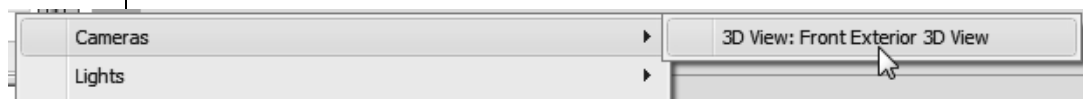

Figure 3-38
19. In the Left viewport, select the **Wireframe** Visual Style label and select **Shaded**. Select the **Left** Point of View label, and select **Camera>3D View: Front Exterior 3D View**, as shown in Figure 3-38. The camera view that was selected when the Autodesk Revit file was linked displays.